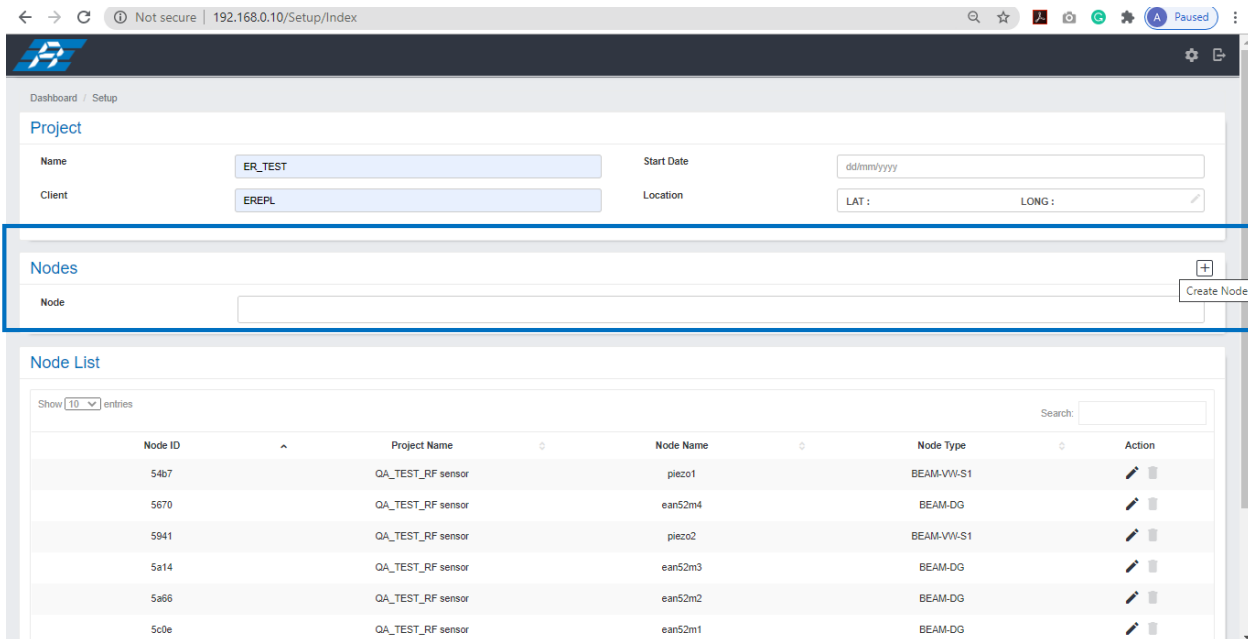

Figure 3-15
1. Under Nodes tab, at the right corner click “+” button to create Node as shown in figure 3-15.